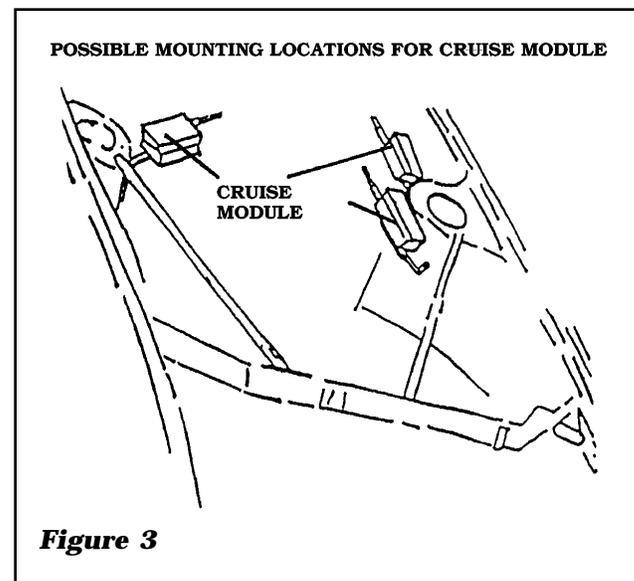

Figure 3
C. Mount the **CRUISE MODULE** in the spot you have selected using **two (2)** of the **SELF-THREADING BOLTS** provided in the kit. Be sure to set the programming switches located underneath the rubber grommet on top of the **CRUISE MODULE** (See **Page 7**) before mounting the WorldCruise **Figure 3**